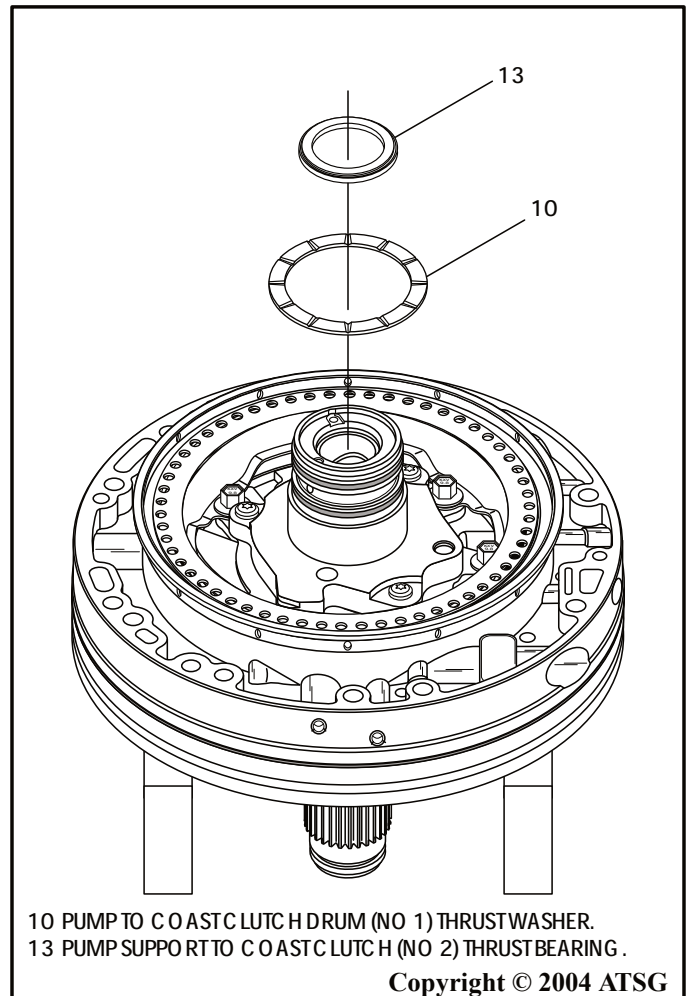

Figure 93
24. Install the number 1 thrust washer, as shown in Figure 93, and retain with a small amount of Trans-Jel®.
25. Install the number 2 thrust bearing onto stator shaft, in the direction shown in Figure 93, and retain with a small amount of Trans-Jel®.